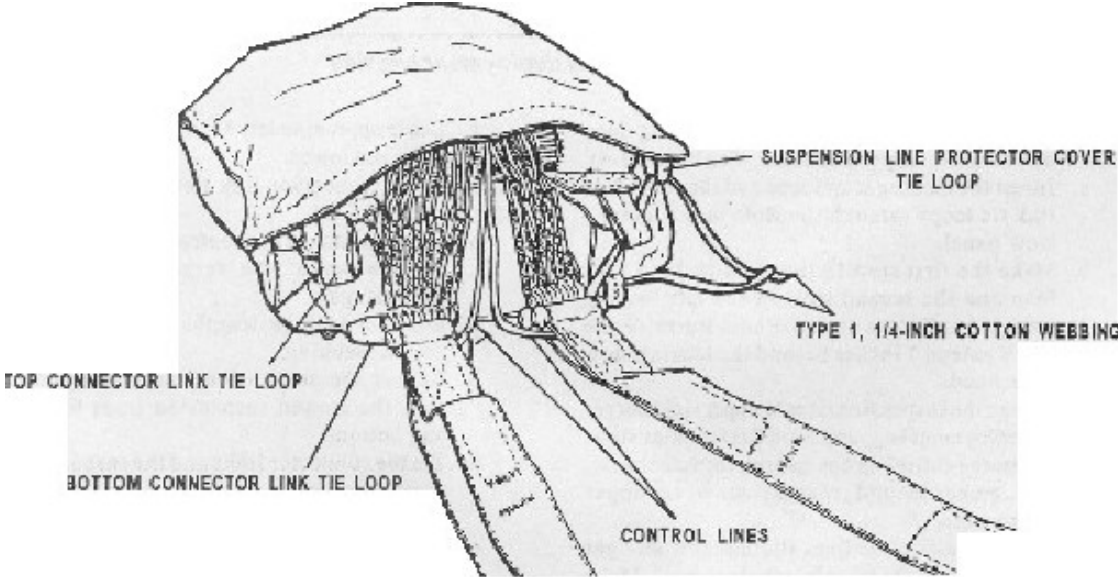

Figure 3-5
- 9. Make the connector link ties on the deployment bag. (See Figure 3-5)